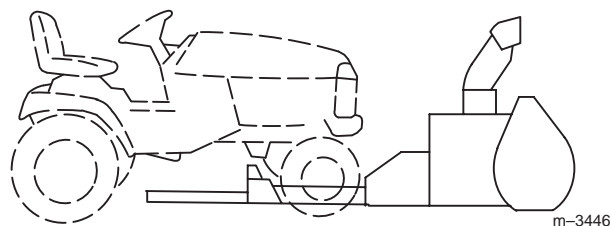

Figure 10
2. Park the tractor behind the snowthrower with the front wheels lined up to straddle the snowthrower frame and lift rod (Fig. 10).